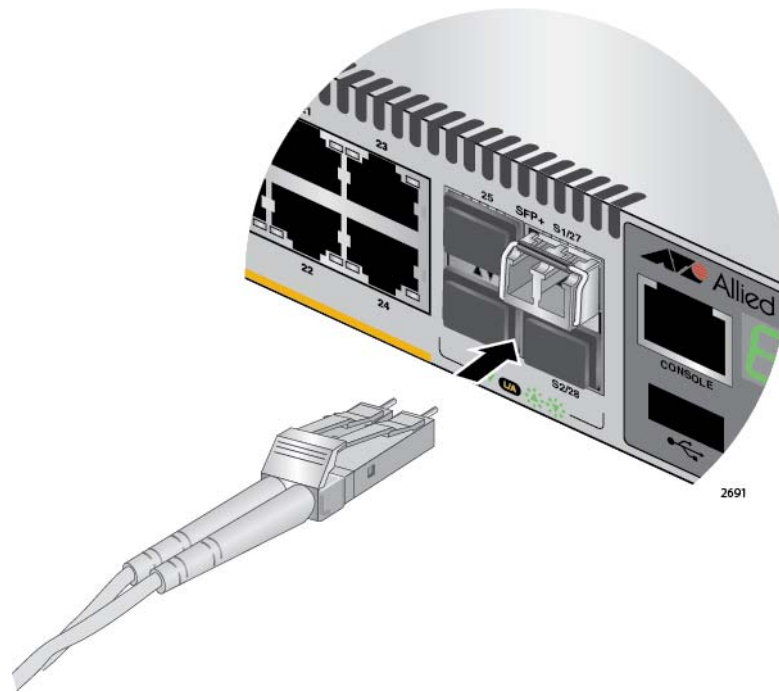

Figure 38. Connecting the Fiber Optic Cable to the Stacking Transceiver
6. Connect the fiber optic cable to the transceiver, as shown in Figure 38 on page 78. The connector on the cable should fit snugly into the port, and the tab should lock the connector into place.